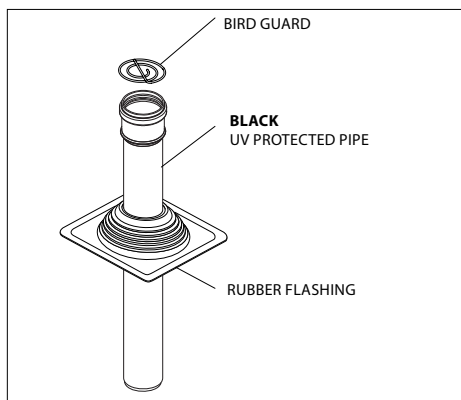

Figure 20- Vertical Pipe Termination
Vertical single pipe (Fig.20)
2. Attach flashing to roof. **(Fig.20)**